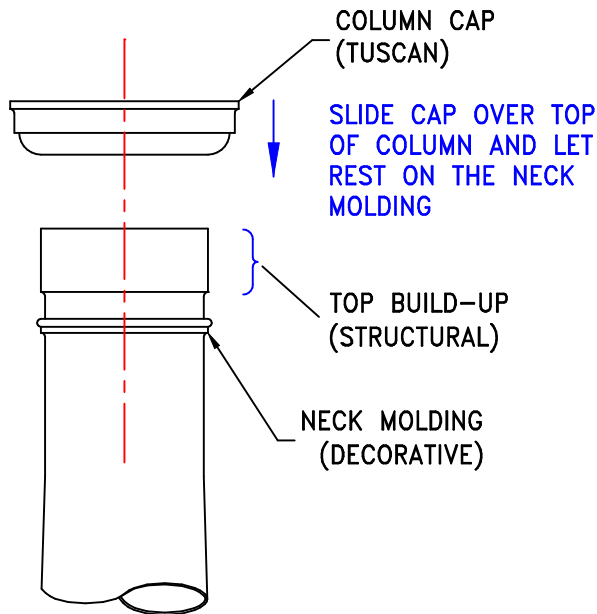

FIGURE 7
10. INSTALL PRE-FIT CAP AND LOWER INTO TEMPORARY RESTING PLACE ON NECK MOLDING (FIGS. 7 & 8)